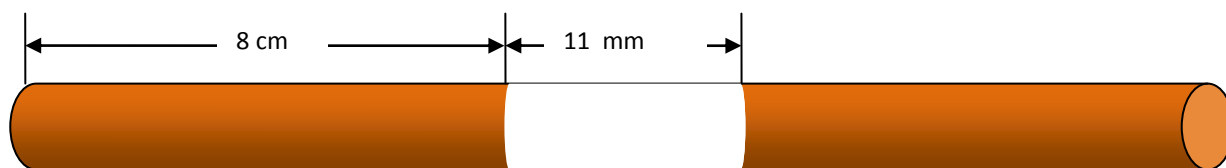

Figure 4. Approximate lengths required
6. Using your method of choice, remove the polyimide coating where the detector window is to be located. This should be no more than 11 mm wide as shown in Figure 4 above.